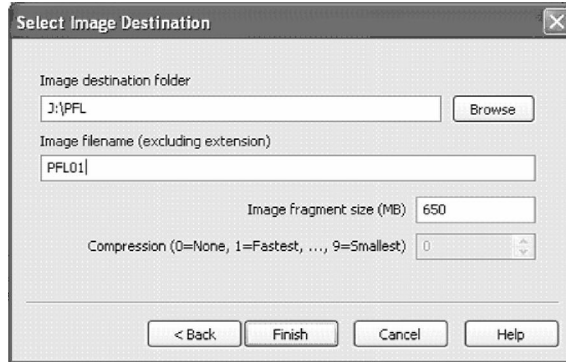

Figure 22 – Final Image Capture Settings
- The next prompt will show the path to your Destination folder in the top field. Add your Case Name to the field below that. In the next field, choose the size of your DD Image Files (we recommend 650 MB, 2GB or 4GB in size). See Figure 22 below.